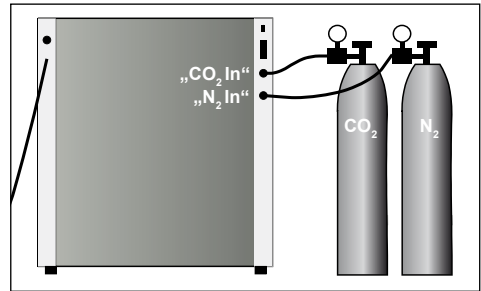

Fig. 13
- ▶ Attach the supplied CO₂ pressure hose to the CO₂ gas bottle (pressure reducer) and to the "CO₂ In" connection on the rear of the incubator with a hose clamp (Fig. 13, see also page 13).